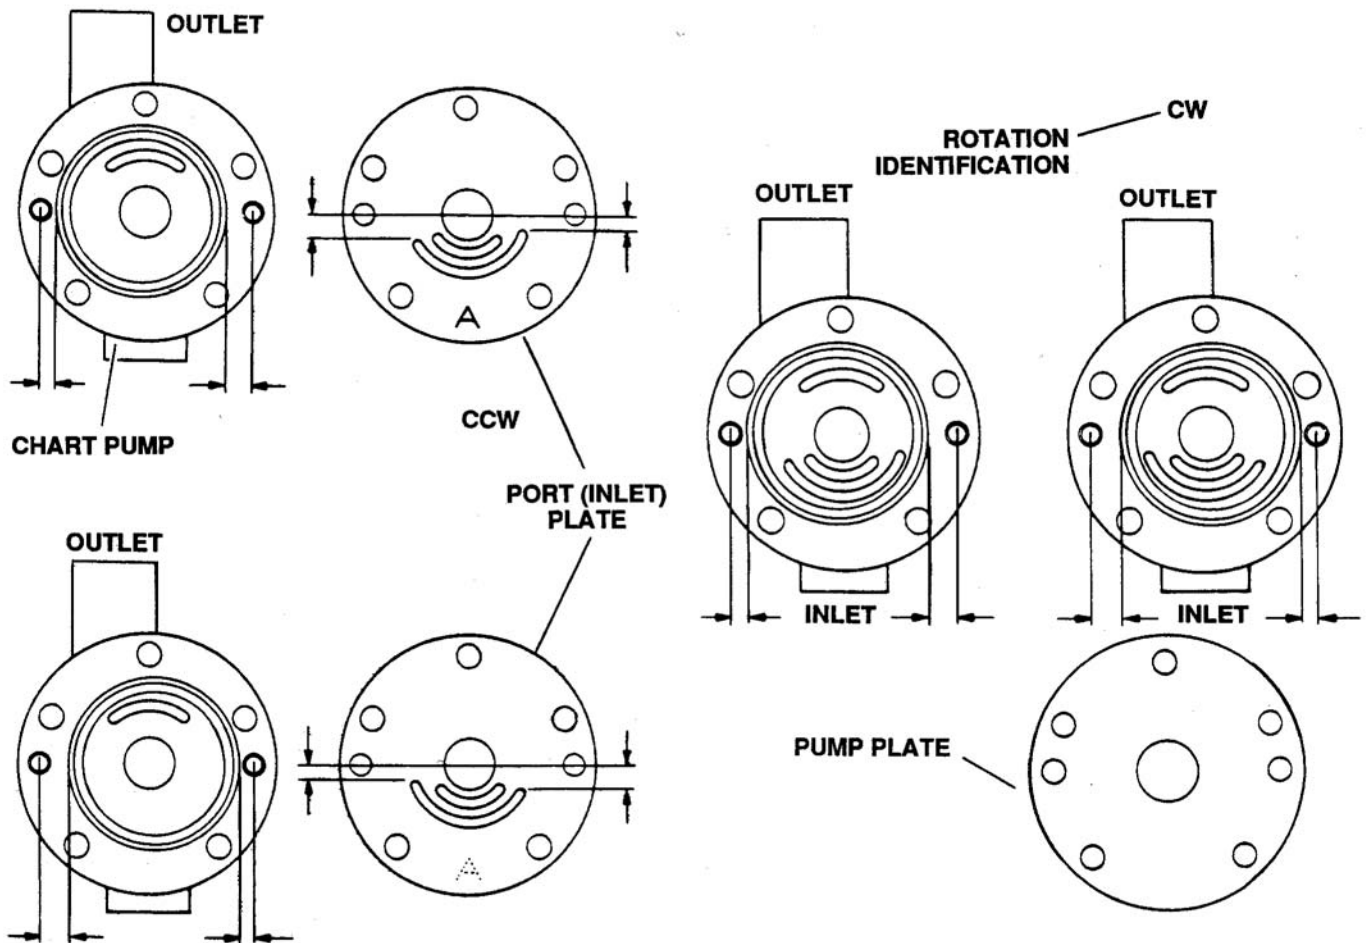

Figure 6-121. Installing Pump Plate
8. For counterclockwise (CCW) rotation, the letter A must be up facing the charge pump. For clockwise (CW) rotation, the letter A must face down toward the cover. See Figure 6-121.